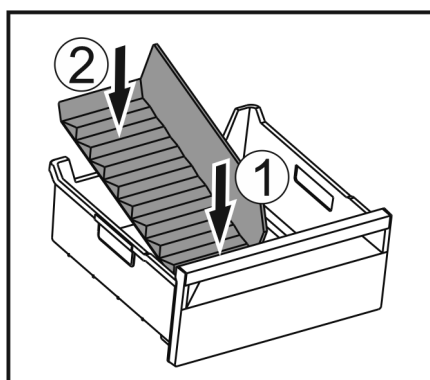

Fig. 68
- Insert the front part of the ice compartment divider. Fig. 68 (1)
- Lower the rear part of the ice compartment divider to the drawer bottom. Fig. 68 (2)